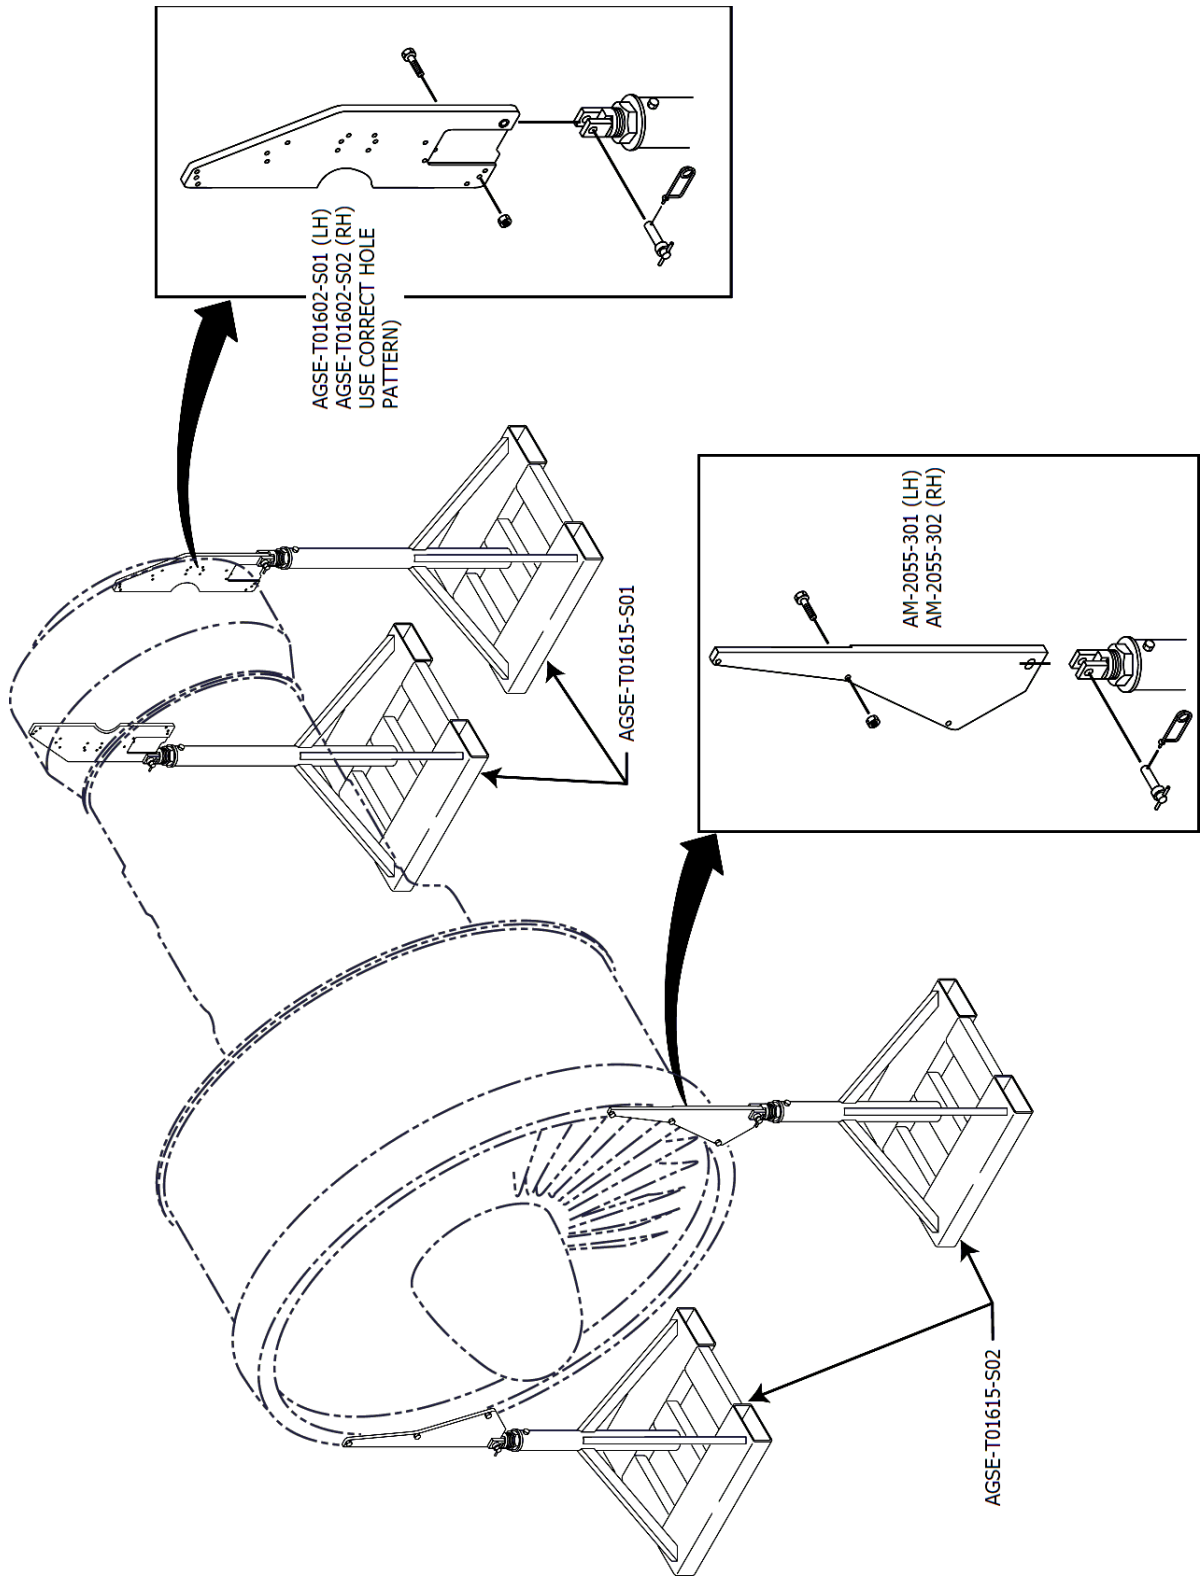
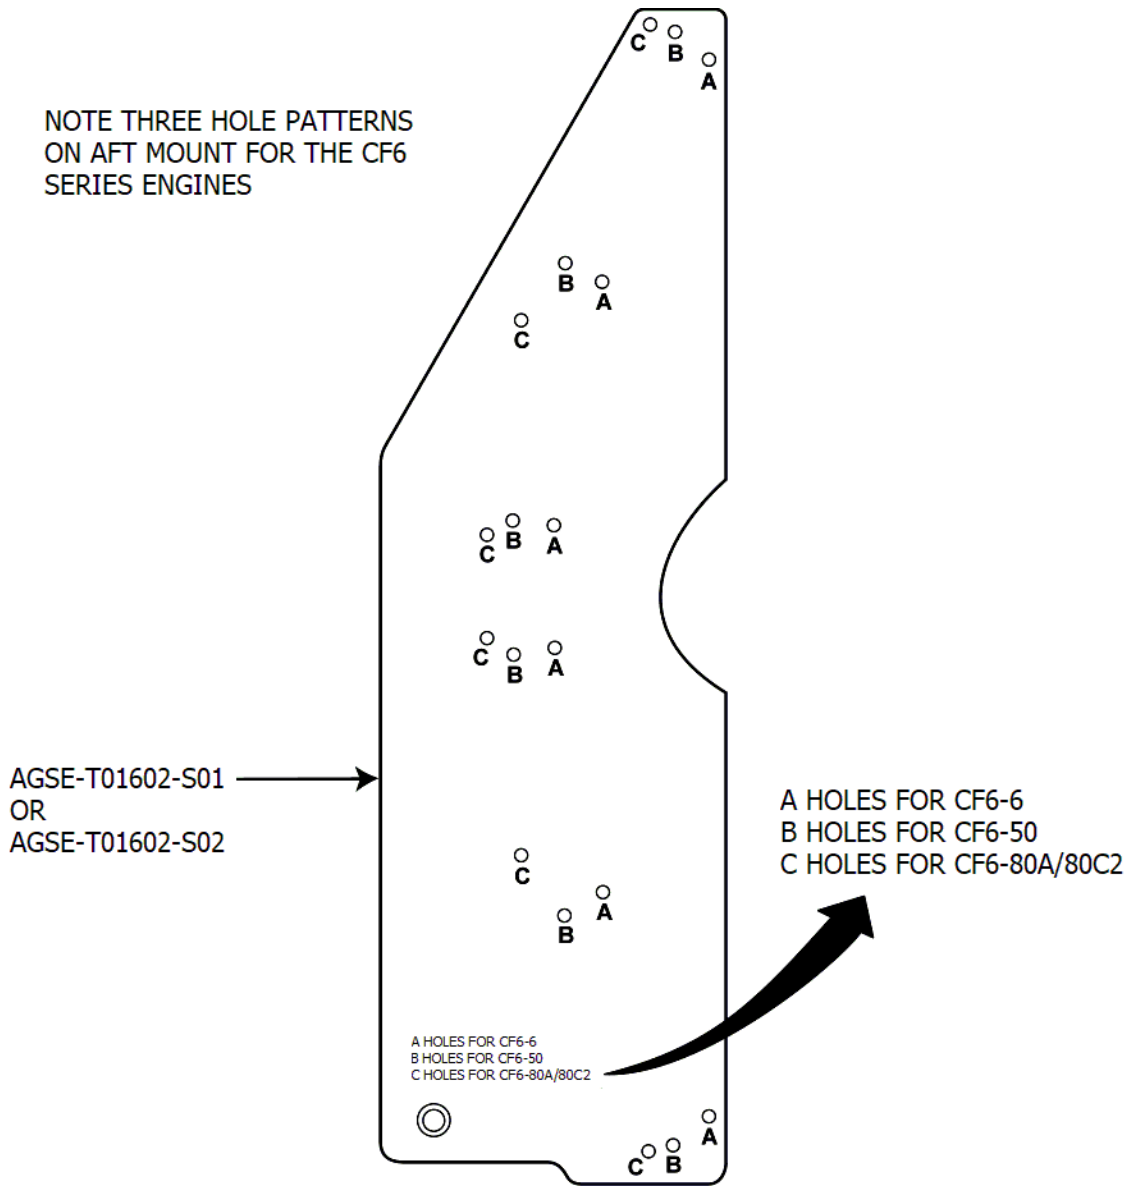

Figure 5.2-1. CF6-80A/80C2 Pedestal Set Arrangement.
Figure 5.2-2. CF6 Aft Mount Hole Patterns.
- 2) Install the applicable mounts onto engine using the hardware provided (see Figures 5.2-1 thru 5.2-2). Note the hole patterns for the aft mounts in Figure 5.2-2. Install any safety clips after pins are inserted.